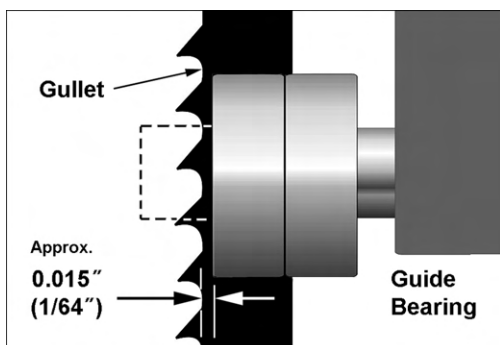

Figure 5-13: Guide Bearing Position
5. Slide entire guide bracket until front of guide bearings are about 0.015" (1/64") behind blade gullet (curved area at base of tooth). See Figure 5-13.